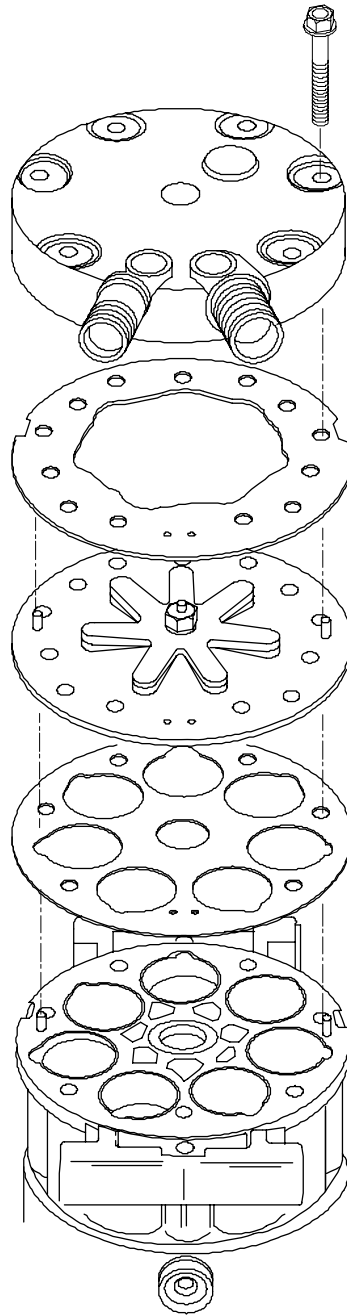
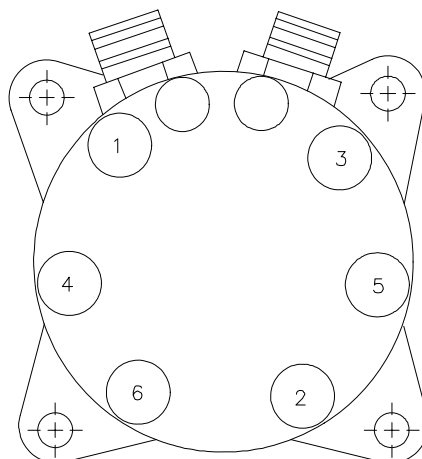

Figure 25 Cylinder Head Installation
Figure 26 Head Bolt Torque Sequence
- 52. Valve Plate and Cylinder Head Installation.** To replace the compressor valve plate and cylinder head, proceed as follows (refer Figure 25 and Figure 26):
- Install the cylinder head. All components should be installed as shown at Figure 25.
- Install the cylinder head bolts and tighten in a star pattern in accordance with Figure 26. Torque first to approximately 14 lbf.ft (19.6 N.m), then finish by tensioning to 24 to 27 lbf.ft (32.4 to 36.3 N.m).